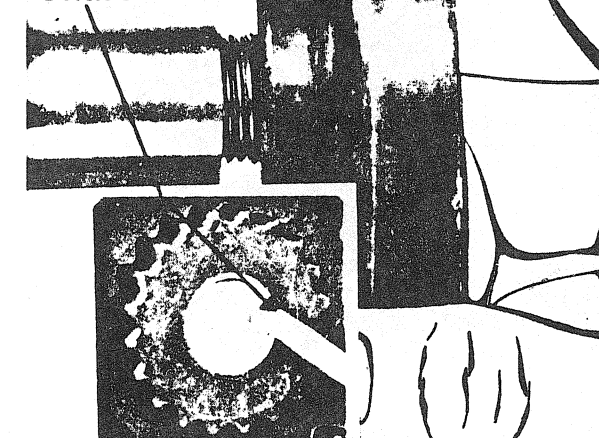

FIGURE 42
- Hand tighten the engine flange coupling (fig. 42).